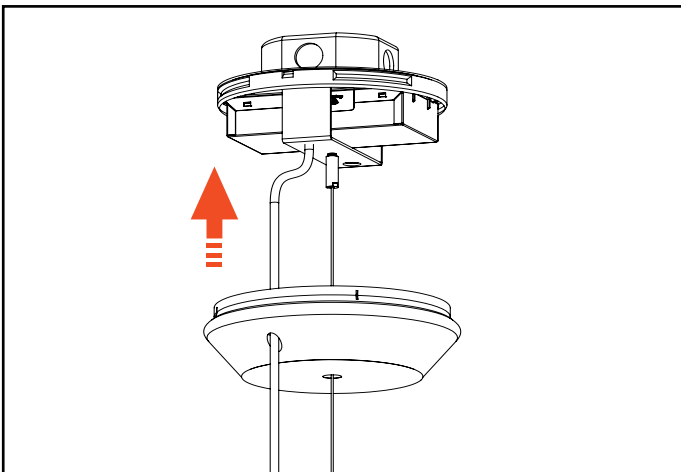

Figure 24
12. Secure back canopy by making sure that low voltage power cord exit in canopy matches with the wire hole in the hold plate and **Aircraft Cable (L)** is passing through the center hole, Press the **Canopy Cover (H)** against the **Canopy Plate (B)**. (Figure 24)